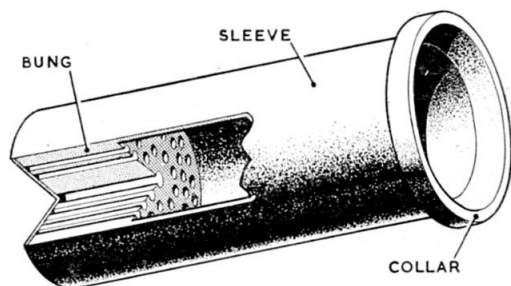
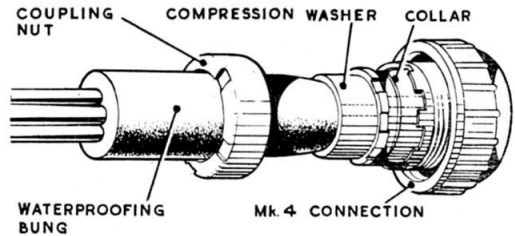

Fig. 3. Helvin waterproofing bung for Mk. 4 plugs and sockets
Fig. 5. Helvin waterproofing bung on a Mk. 4 connection
6. The other type (*fig. 3*) is made to suit the Mk. 4 plugs and sockets. This is similar to the one described in para. 5 except that it has a thick collar at the end of the sleeve, and this fits into a recess in the back of the Mk. 4 connections as shown in *fig. 5*.
15. When a bung is being fitted to a Mk. 4 connection (fig. 5), a castellated pressure washer is specially supplied which is not a normal fitting on the connection. The collar of the bung fits into a recess in the back of the connection, and the castellated washer fits over the bung sleeve and presses the collar into the recess when the clamping nut is screwed onto the end of the connection. When the nut is being screwed into position, ensure that the castellations on the washer fit into the slots on the end of the connection.